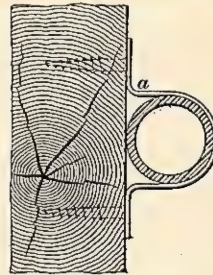

FIG. 33
51. Wrought-iron pipes may be fastened in place by common drive hooks, but where a good appearance is desired, they should be fastened with bands, which are secured to the walls by screws, as shown in Fig. 33. The band, or strap, *a* should be made of wrought iron tinned.